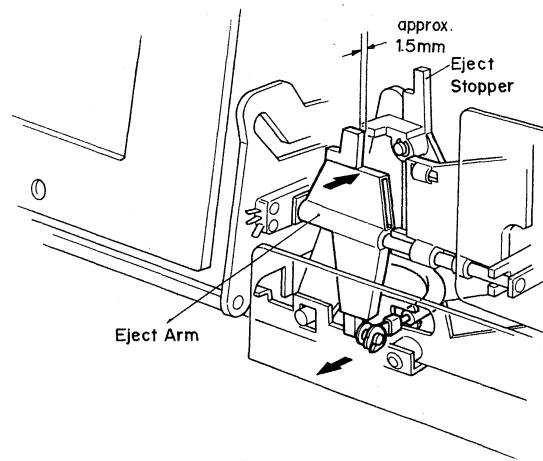

Fig. 5.17.1
- (1) Referring to Fig. 5.17.1, insert a 1.5 mm spacer between the Eject Arm and Eject Stopper by turning the Eject Arm in the illustrated direction, then set the N-580M in playback mode.